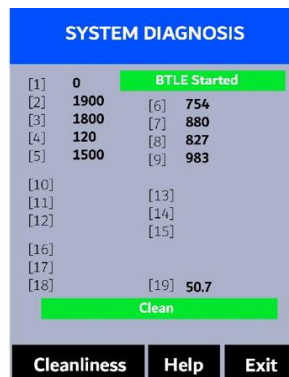
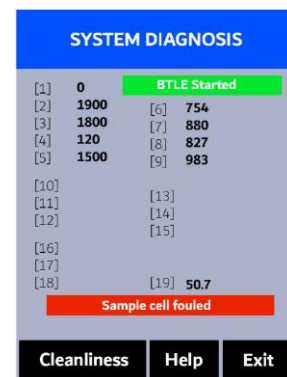

Figure 9.
Figure 10.
8. Once the Cleanliness Check is completed a **Clean** message (Figure9) or **Sample cell fouled** message (Figure 10) will appear towards the bottom of the display.